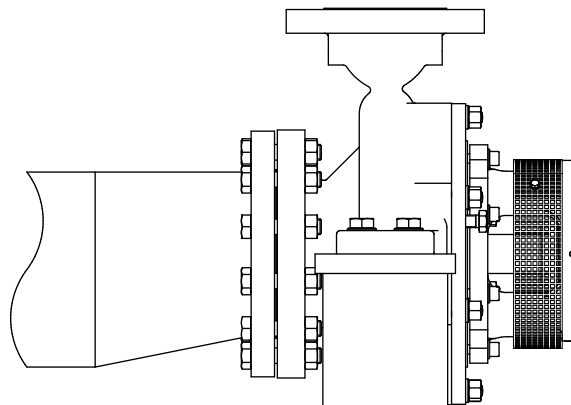

Figure 5: Eccentric reducer to suction flange.
- The passage of the suction pipe must be amply dimensioned. This pipe should be as short as possible and run towards the pump in such a way that no air pockets can arise. If this is not possible, a venting facility should be provided at the highest point of the pipe. If the inside diameter of the suction pipe is larger than the suction connection of the pump, an eccentric reducer should be applied to prevent air pockets and whirls. See figure 5.